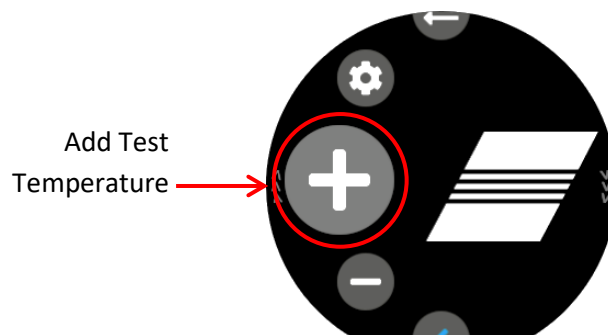

Figure 37: Add Test Temperature Button on Main Menu
28. If the temperature you want is not in the list, then this unit has never used that temperature. Press the back button to return to the menu. Rotate the Base Unit controller and scroll to **Add Test Temperature** button. Press to select. See Figure 37.